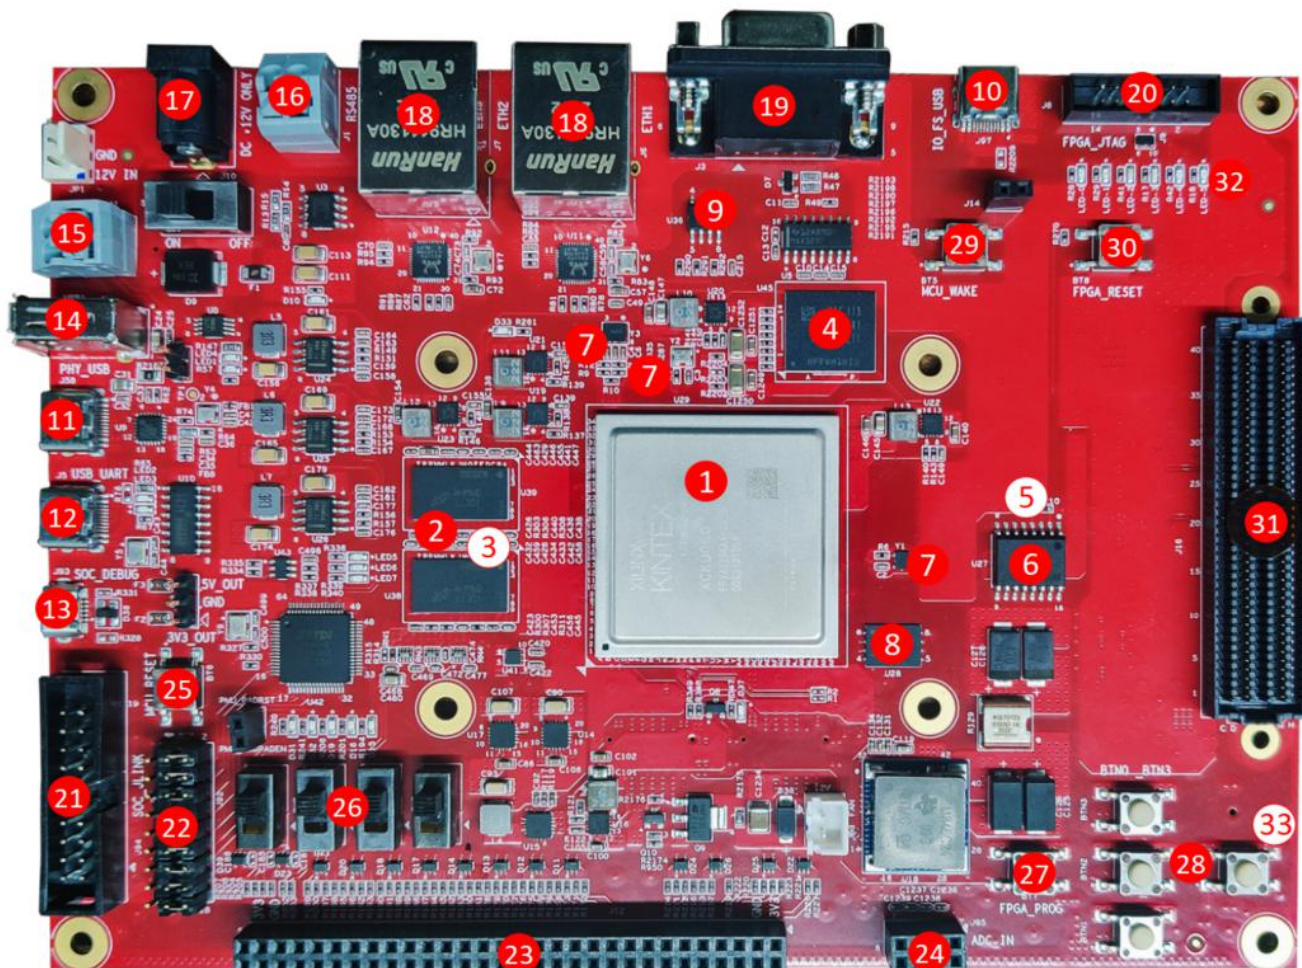
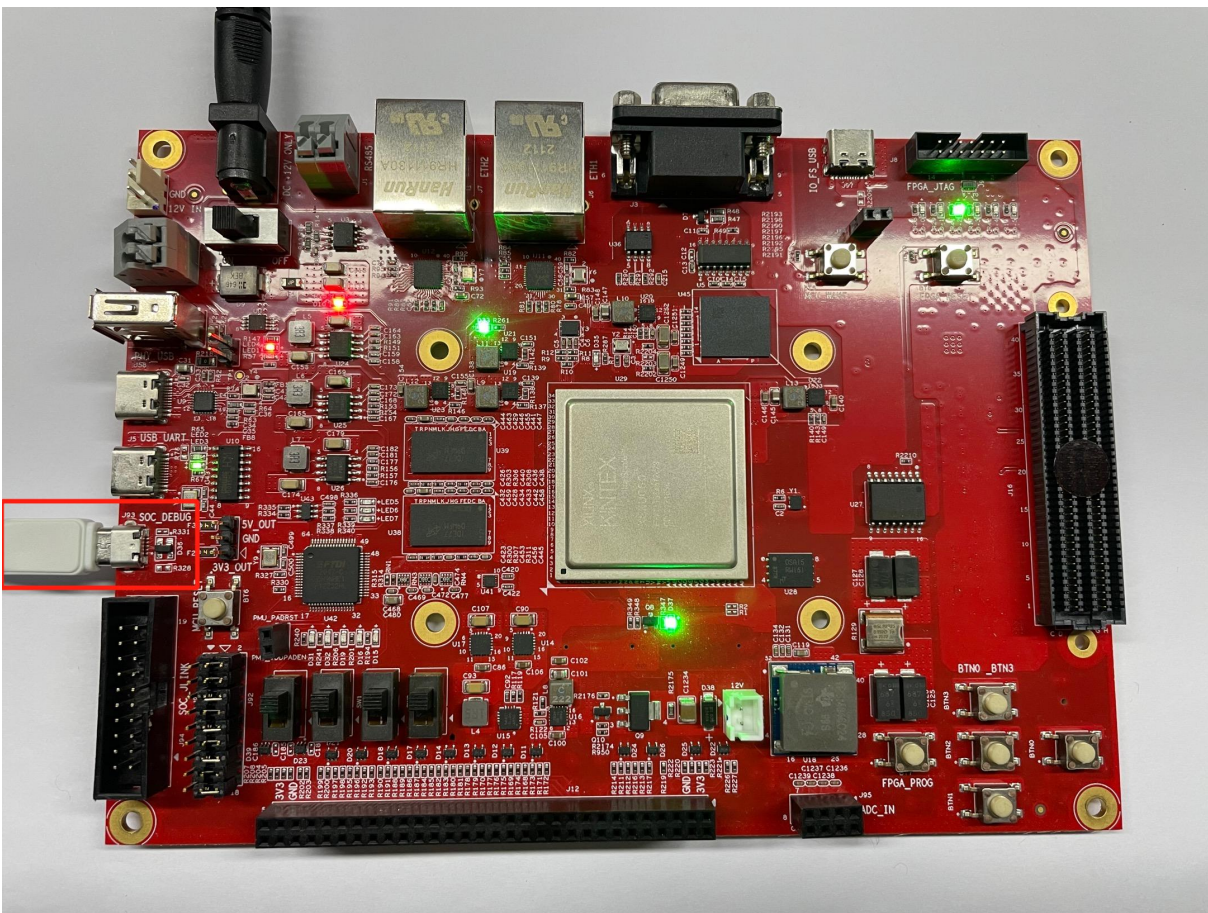

Figure 5-1 Board Hardware Resources
Figure 5-2 The HP060 FPGA board's On-board HummingBird SoC Debugger interface
HPO60 Evaluation Kit is an high-level FPGA board based on Xilinx FPGA, as depicted in Figure 5-1, the hardware resource (marked as with different numbers in above picture) of this board is described as follows.
- The SoC have the "System Reset" pin, and the FPGA project mapped the pin to the board MCU_RESET button, as depicted in the Figure 5-1 mark [25].
- The SoC have the "PoR Reset" pin, and the FPGA project mapped the pin to the board FPGA_RESET button, as depicted in the Figure 5-1 mark [30].
- The SoC have 4 pins JTAG and UART pins (pin-mux to GPIO_16 and GPIO_17 of the SoC), and the FPGA project mapped these pins to the On-board HummingBird SoC Debugger interface, as depicted in the Figure 5-1 mark [13]. The "HPO60 Debugger Kit" can be connected to this socket, as depicted in Figure 5-2, and then be used to debug the RISC-V core (burned inside FPGA).
As described in Section 5.2.1, one of the purposes of “HP060 Evaluation Kit” is to be as the regular FPGA board. To achieve this goal, there are push buttons , switches and LED lights, as depicted in the Figure 5-1 mark [28] [26] [32]. User can utilize these on-board resource to control the SoC, for examples as below:
- The switches (as depicted in the Figure 5-1 mark [26]) connect directly to FPGA GPIO. User can rewrite the constraint file(.xdc) to connect it to MCU_GPIOx pins, then to use the switch to control the MCU_GPIO input value.
- The LED lights (as depicted in the Figure 5-1 mark [32]) connect directly to FPGA GPIO. User can rewrite the constraint file(.xdc) to connect it to MCU_GPIOx pins, then
- The buttons (as depicted in the Figure 5-1 mark [28]) connect directly to FPGA GPIO. User can rewrite the constraint file(.xdc) to connect it to MCU_GPIOx pins, then to use the button to control the MCU_GPIO input value.
// Step 8: If the above step succeeded, user can push FPGA board's "FPGA_PROG" button (as depicted in the Figure 5-1 mark [27]), it will trigger the FPGA to load the Bitstream from the SPI Flash into the FPGA chip and make it start to work.